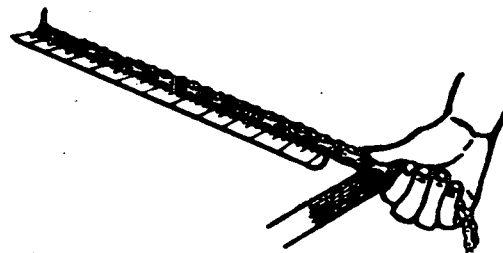

Fig. 2
- Fix the end of the chain on a flat surface (Fig. 2).